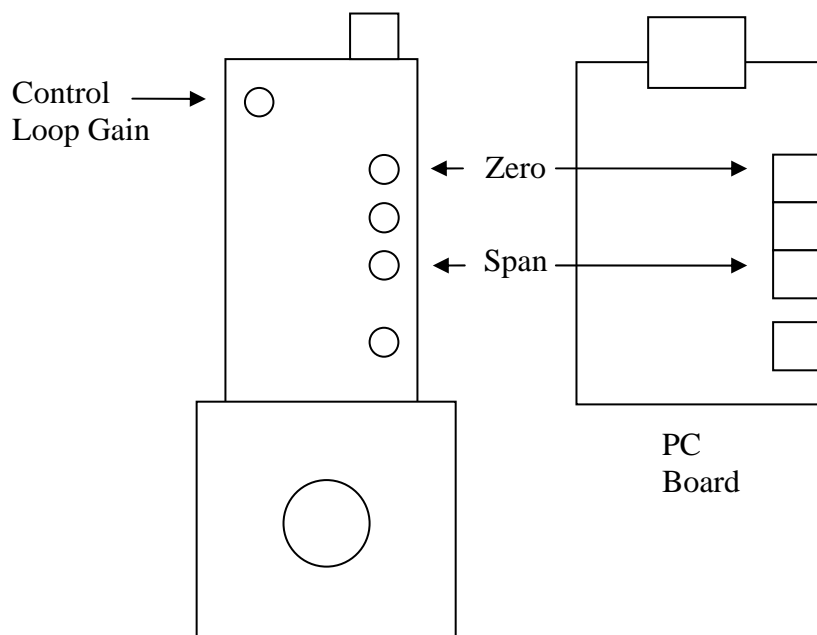

Figure 3-2
On the top left of the inlet side of the flow controller there is a hole through which the gain potentiometer is accessible. See Figure 2-5 and Figure 3-2. This gain potentiometer affects the gain of the closed loop controller. Normally this potentiometer will be set at the factory for good stable control. It may be necessary to adjust this potentiometer in the field if the system varies widely from the conditions under which the controller was setup. Turning this gain potentiometer clockwise will improve stability. Turning the potentiometer counter-clockwise will speed up the valve reaction time to changes in the command signal
2. Completely shut off the flow and wait for 2 minutes. Adjust the zero potentiometer located on the lower inlet side of the flow meter (see Figure 3-2) until the meter indicates zero.
4. Perform this step only if a calibrated reference flow meter is available. Adjust Span pot (see Figure 3-2) until the indicated flow reads full scale (5.00 VDC or 20 mA) and the reference meter/controller reads the desired full scale flow rate.